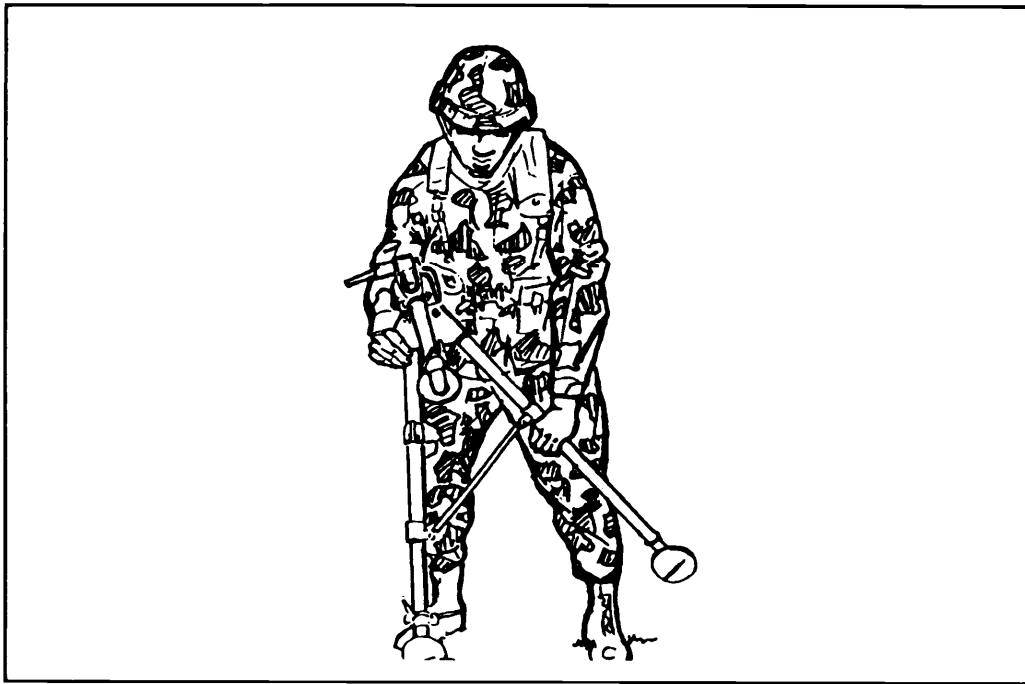

Figure 5-24. Folding the trail legs.
(3) The gunner rotates the bolt latch release lock to the right and releases the bolt latch. He checks his sights to ensure they are properly set.
(4) The assistant gunner assumes a kneeling position behind the tripod and releases the sleeve lock latch with his right hand. He rises to his feet, grasps the front leg with his left hand, and rotates the tripod to a vertical position on the trail legs. With his right hand, he loosens the front leg clamp, folds down the front leg, then tightens the clamp. With his right hand on the tripod head, he rotates the tripod on the right trail leg and releases the sleeve latch. Then he folds the left trail leg against the right with his left hand (Figure 5-24, page 5-32). Holding the tripod head with his right hand, trail legs with his left, he lifts the tripod across the front of his body with the front leg up. He turns to the right and returns to his original position. At this time, the crew leader picks up his ammunition box and faces the crew. The assistant gunner places the tripod on the ground, assumes a prone position to the right of the tripod, and announces UP.